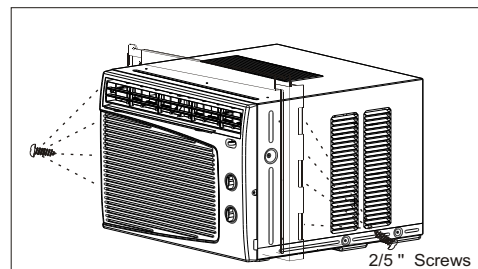

Fig. 2
2. Insert the guide panels into the guides of the air conditioner. Fasten the curtains to the unit with screws (Fig. 2).